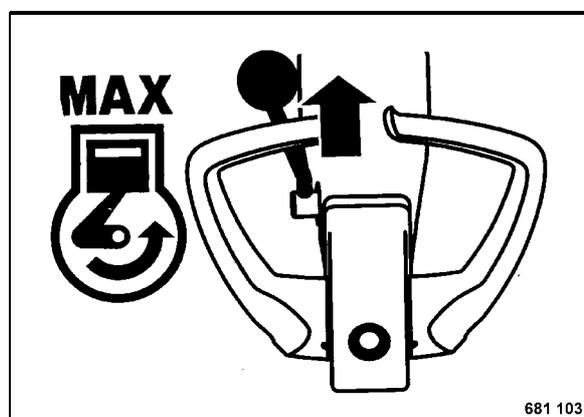

Fig. 30
- Set the throttle lever (Fig. 30) to position "MAX" (full speed).